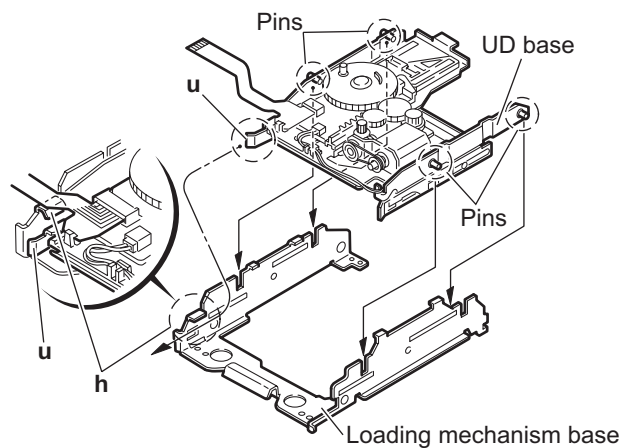

Fig.25
- (9) Connect the wire of the loading motor to the connector **CN612** on the MD cam switch board.
- (10) Hang the wire to the hook **t** of the UD base and fix it with the wire holder.
- (11) Reattach the UD base while engaging the four pins on the both sides of the UD base to the notches of the loading mechanism base and placing the edge **u** of the cartridge holder assembly under the hook **h** of the loading mechanism base. (See Fig.25.)